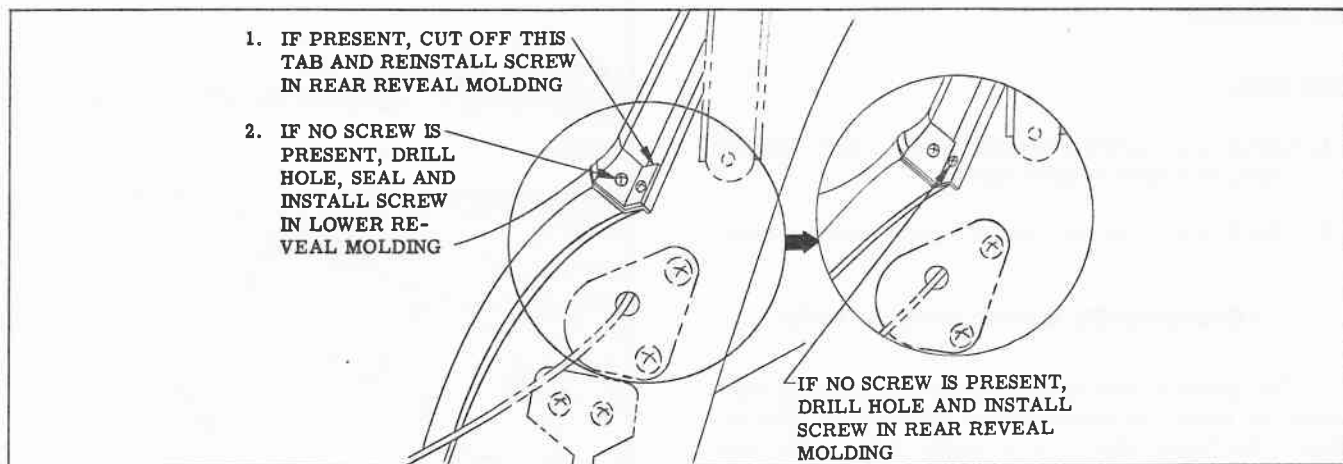

Fig. 6 Views "A" and "B" Fig. 4
3. If the rear quarter window lower rear reveal molding has a tab as shown in View "A", Fig. 6, cut tab from molding. Reinstall screw in original hole in lower end of rear quarter window rear reveal molding. If no screw is present, drill hole, seal and install screw (part #442610) to
4. If the rear quarter window rear reveal molding does not have a tab or screw at the lower end as shown in View "B", Fig. 6 install screw to obtain a better fit.